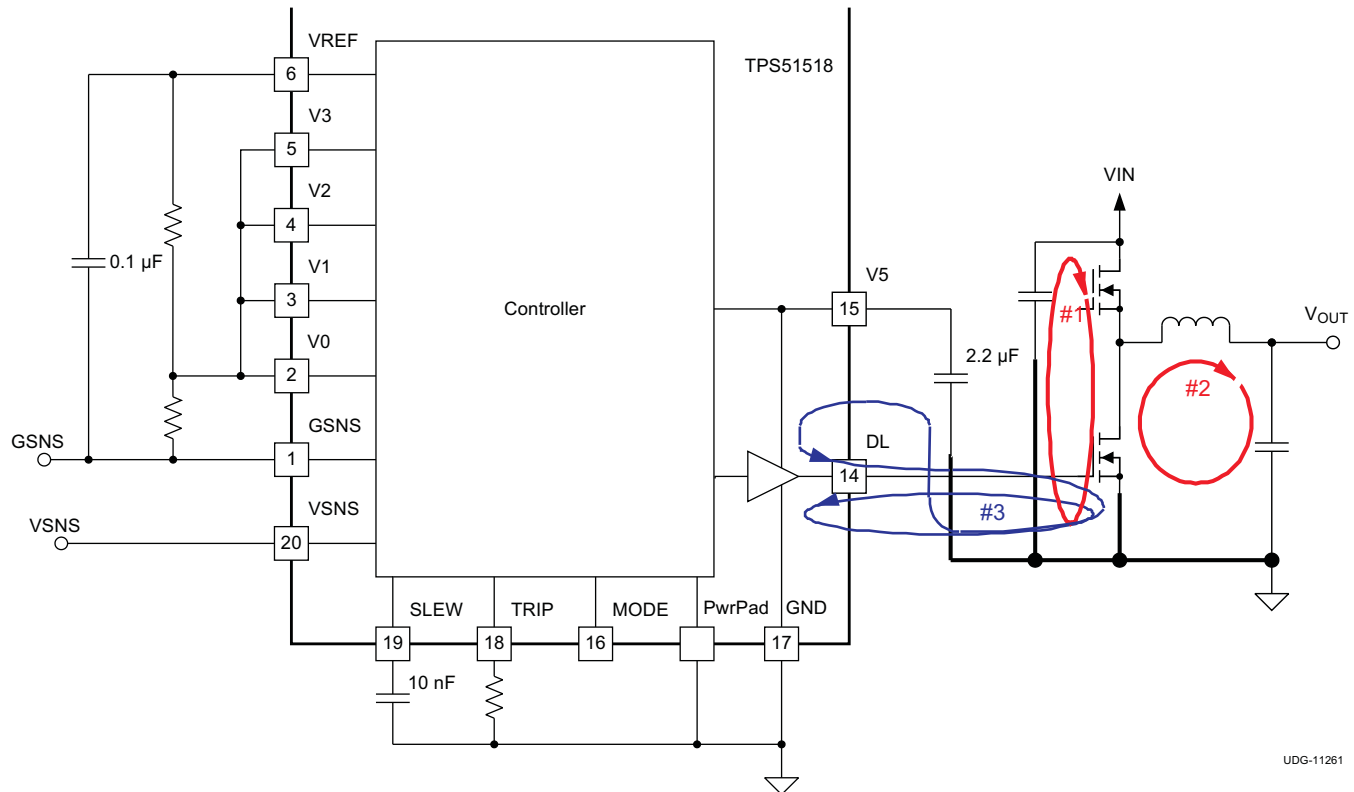

Figure 26. DC/DC Converter Ground System
- Loop #1. The most important loop to minimize the area of is the path from the V_{IN} capacitor(s) through the high and low-side MOSFETs, and back to the capacitor(s) through ground. Connect the negative node of the V_{IN} capacitor(s) and the source of the low-side MOSFET at ground as close as possible. (Refer to loop #1 of Figure 26)
- Loop #2. The second important loop is the path from the low-side MOSFET through inductor and V_{OUT} capacitor(s), and back to source of the low-side MOSFET through ground. Connect source of the low-side MOSFET and negative node of V_{OUT} capacitor(s) at ground as close as possible. (Refer to loop #2 of Figure 26)
flows from gate of the low-side MOSFET through the gate driver and PGND, and back to source of the low-side MOSFET through ground. Connect negative node of V5 capacitor, source of the low-side MOSFET and PGND at ground as close as possible. (Refer to loop #3 of Figure 26)